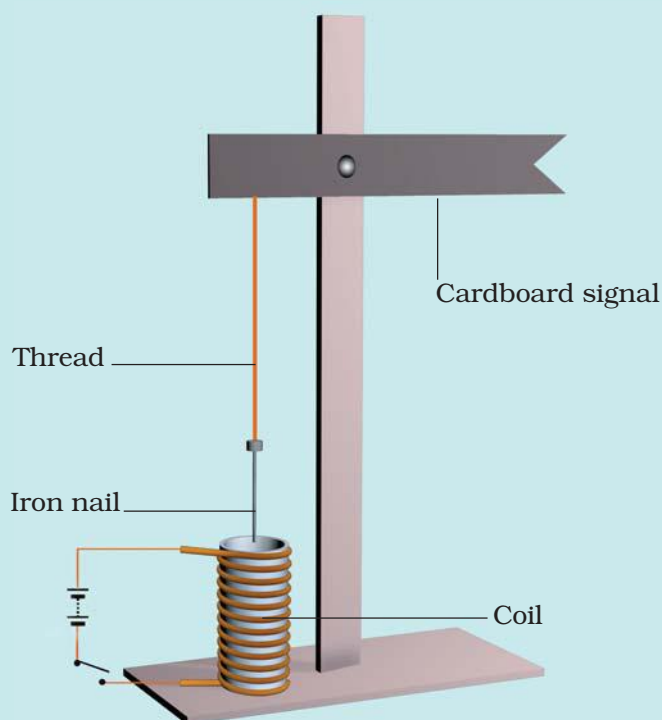

Fig. 14.26 A working model of a railway signal
3. Using an electromagnet, you can make a working model of a railway signal as shown in Fig. 14.26.